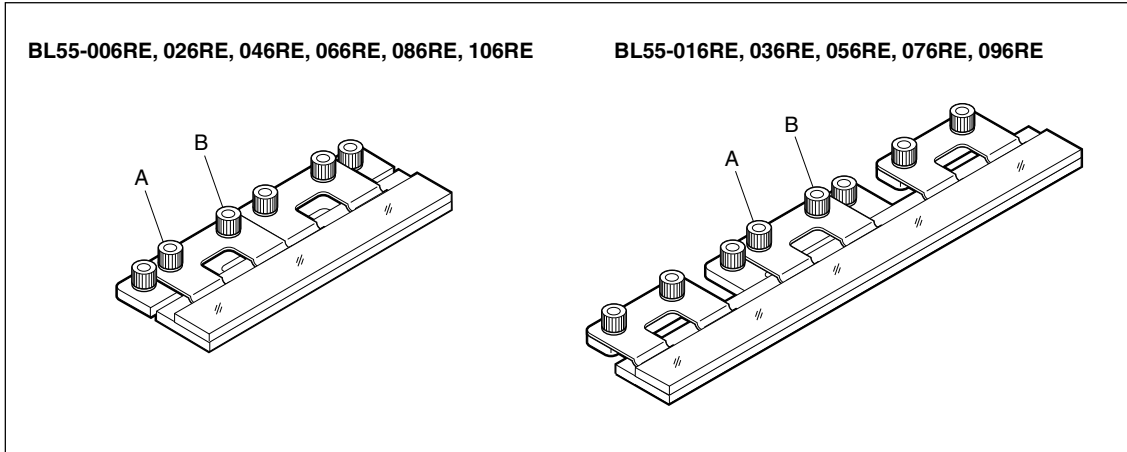

Fig. 3-7
- 5 Leave the scale in the condition of Fig. 3-7 for one hour or more until the scale temperature stabilizes.